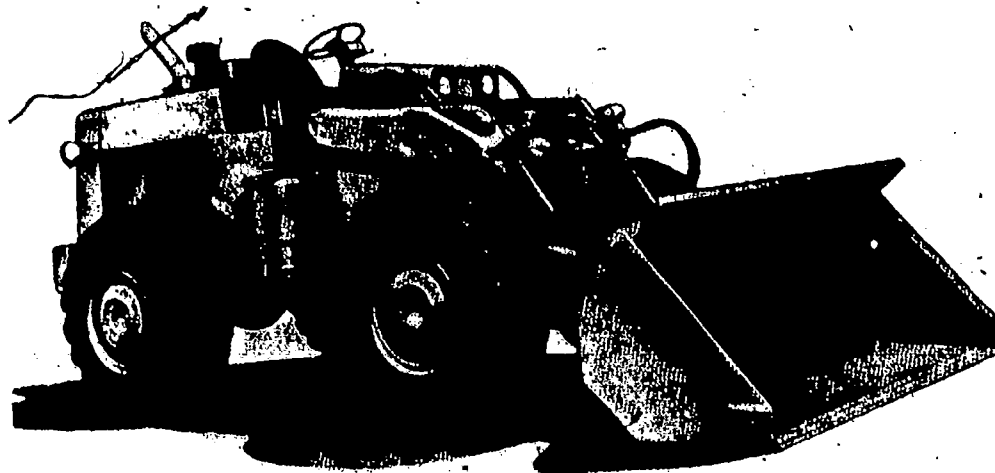

Fig 1-16. Terex 72-31MP tractor w/bucket loader.
(3) Forklift, commercial. The commercial forklifts are supplied by many manufacturers in many different sizes and capacities. An operation and maintenance publication printed by the manufacturer is available for each make and model forklift; be sure to read and understand these publications before attempting to operate or service the commercial type forklifts.
b. Scooploader--Terex 72-31MP tractor w/bucket loader (fig 1-16). This is a 4-wheel drive, hydraulically operated front-end loader powered by a 4-cylinder, series 71, Detroit diesel engine. The 72-31MP scooploader is equipped with articulated steering. Power is transmitted from the engine to the power train through an Allison Toromatic transmission. It is equipped with the Drott 4-in-1 bucket and can also be equipped with the forklift attachment capable of lifting 10,000 lb. Thus this tractor can handle either bulk or palletized material.